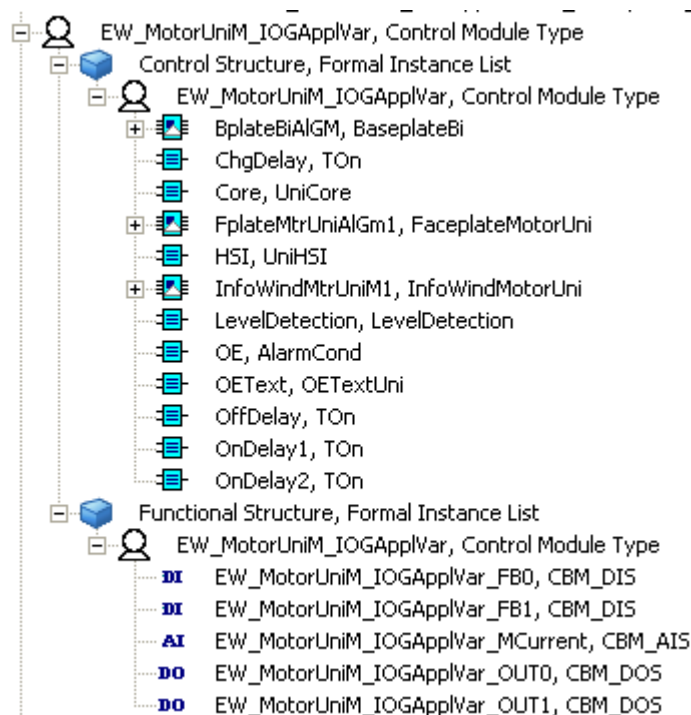

Figure 310. Process Object with its Signal Objects
3. Extend the object type in the Object Type Structure with formal instances of Signal objects in the Functional Structure as shown in Figure 310.